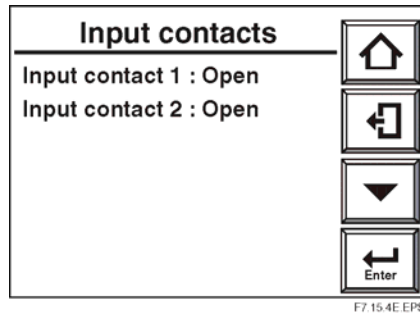

Figure 7-21 Input Contact Check Display
2. Select “input contact”. The display screen shown in Figure 7-21 appears. This display screen indicates the state of the input contacts but does not control them. Cycle the input source(s) to check the wiring connections.